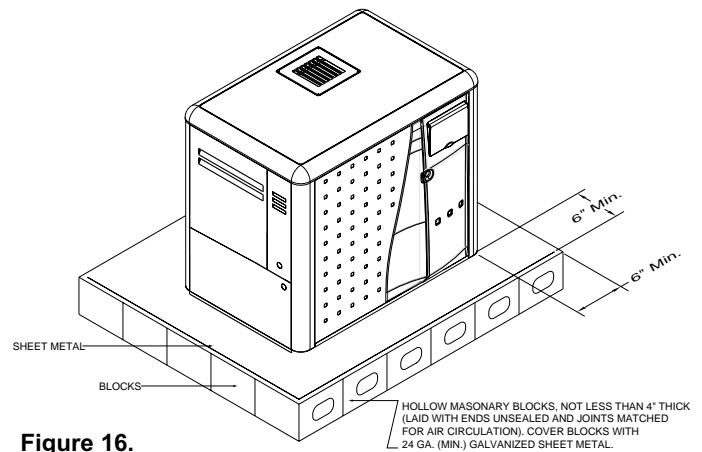

Figure 16.
- Construct a non-combustible base from masonry blocks as illustrated, see Figure 16.